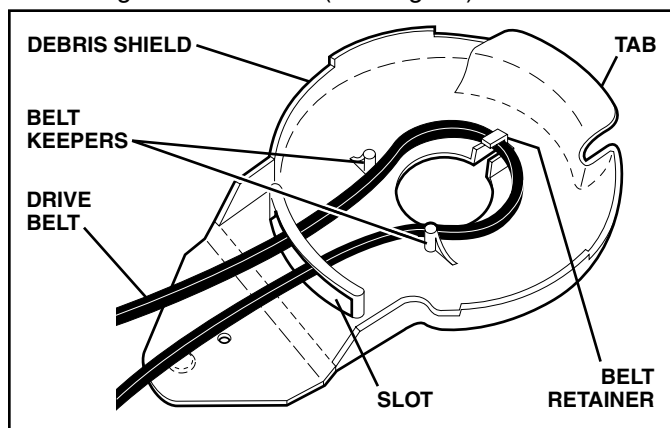

FIG. 21
1. Place new drive belt in the belt retainer of the debris shield. Be sure to route belt between belt keepers and through slot as shown (See Fig. 21).